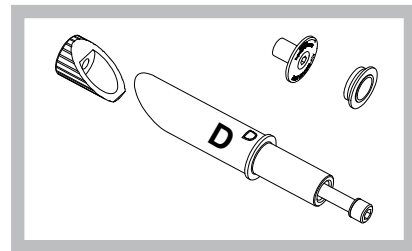

Figure 2
2. BTO011—Surly Trailer Drive Side (D) Stub Axle LH Thread with Fixing Bolt and wheel offset washer (Figure 2)